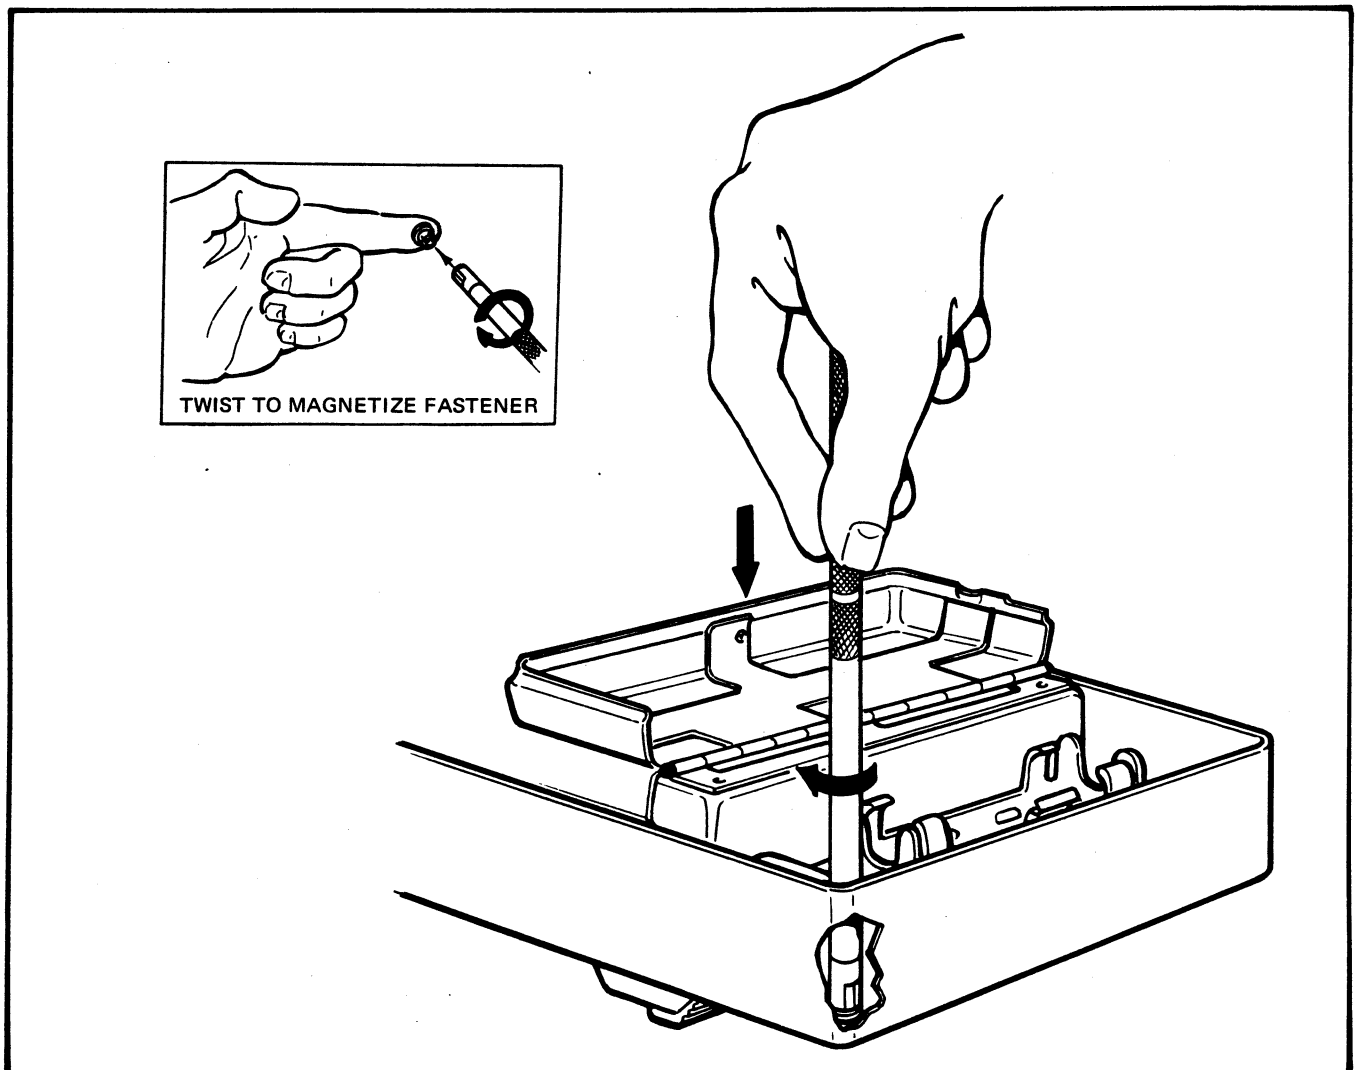

FIG. 5.29 INSTALLING THE LEFT HAND GUARD
2. Secure the guard with the fasteners using tool #CR11008 (Figure 5-29).
2. Secure the guard with fasteners using tool #CR1008 as shown in Figure 5-29.